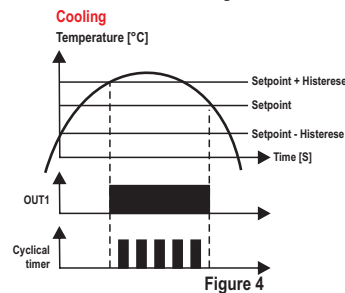

Figure 4
- **Cyclical timer output cycles whenever stage 1 output is on (F22=5):** **stage 3** will cycle only when **stage 1** output is on, observing the times configured in F20 ($\overline{[C D n]}$) and F21 ($\overline{[C D F F]}$), as shown in Figure 4.